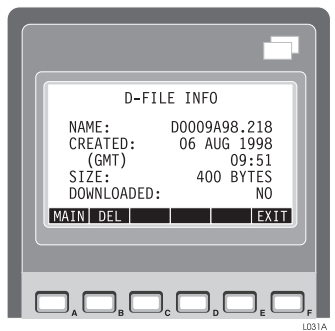

Figure 3.43: D-File Info Screen
1. To examine the D-file, go to the Main Menu, and press the **O (D-FILE INFO)** key, calling the D-File Info screen (Figure 3.43).